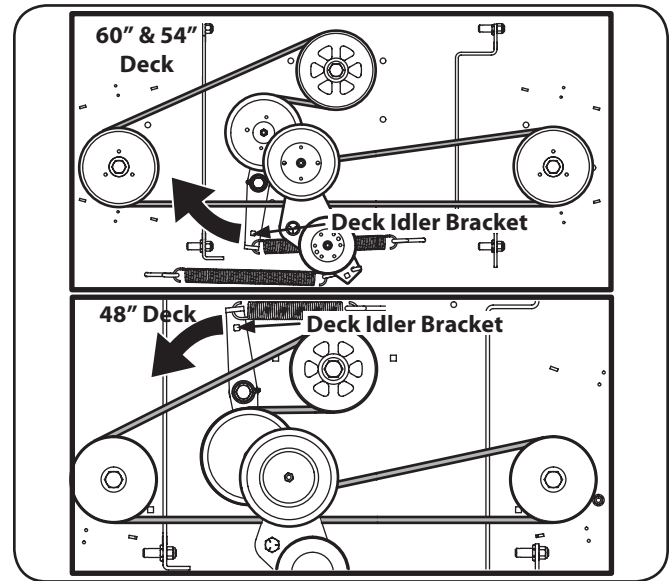

Figure 7-7
4. Using a $\frac{1}{2}$ " drive insert the male end into the $\frac{1}{2}$ " square opening in the deck idler assembly and rotate the idler clockwise on the 60" and 54" decks and counter-clockwise on the 48" deck. See Fig. 7-7. While holding the deck idler, loosen the deck belt from the pulley and slide the belt away from the pulley.
5. Route the new belt as shown in Fig. 7-7. Then reinstall the deck and PTO belt as instructed on page 34.